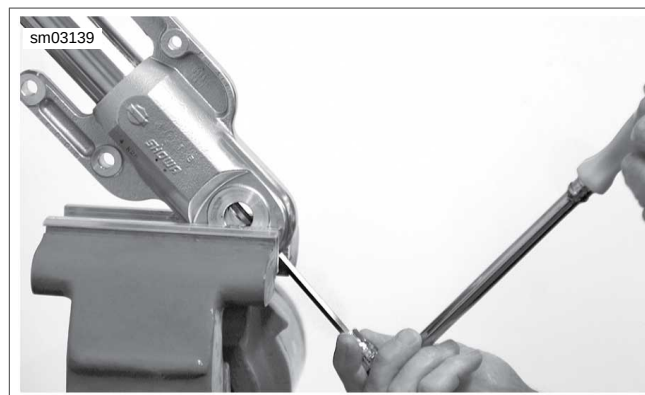

Figure 2-184. Install Fastener and Copper Washer
6. See Figure 2-184. Using a vise with soft jaws, clamp fork slider in vise. Install **new** fastener and copper washer to hold fork cartridge in place inside fork tube. Tighten to 132-216 **in-lbs** (14.9-24.4 Nm).